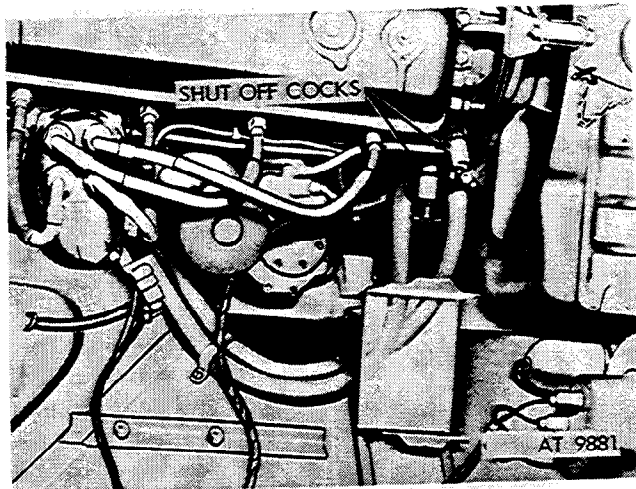
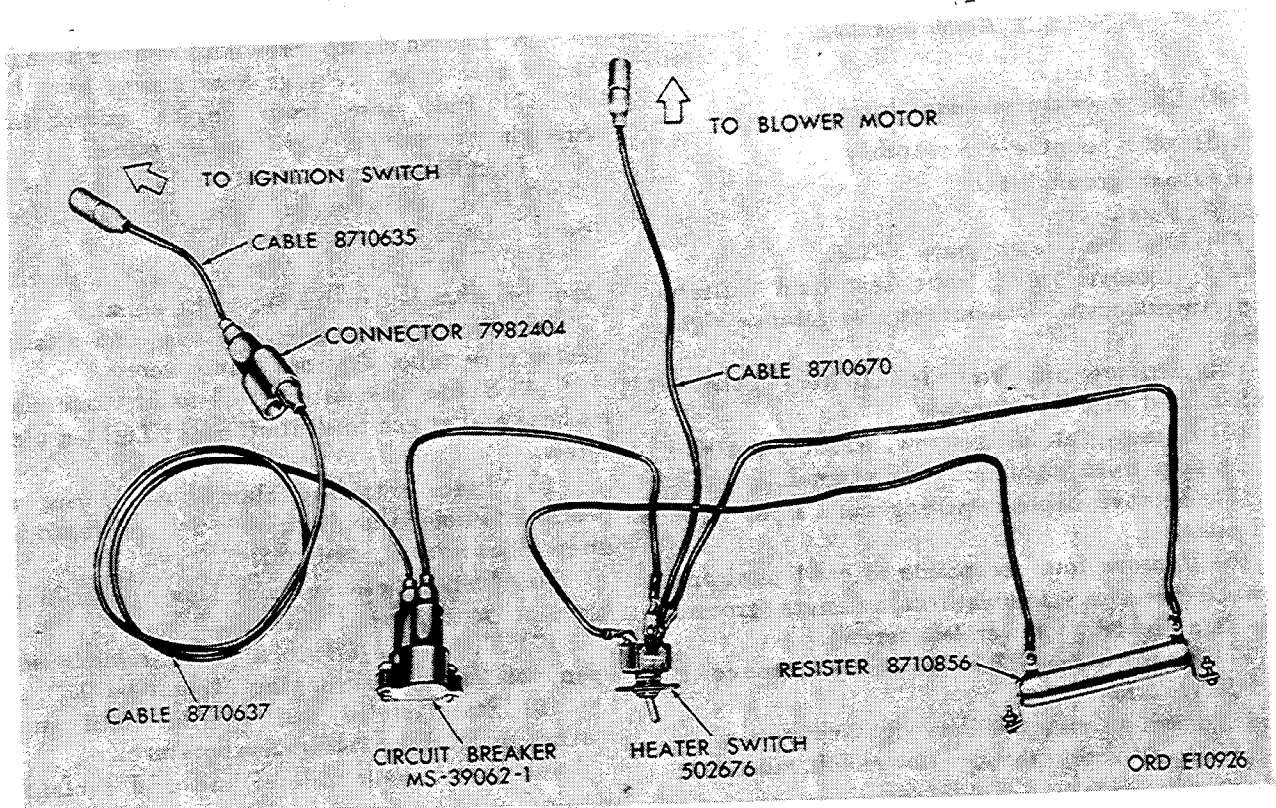
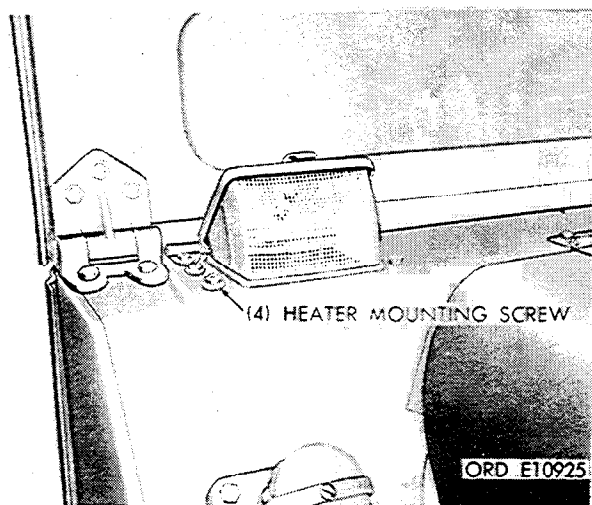

Figure 3-19. Heater shut-off cocks and heater hoses.
Figure 3-20. Wiring assembly—hot water heater.
Figure 3-21. Heater mounting.
- (1) Close both shut-off cocks by turning clockwise (fig. 3-19).
- (2) Remove four weldment screws and washers.
- (3) Disconnect blower motor cable from circuit breaker cable (fig. 3-20).
- (4) Disconnect two hoses from heater core.
- (5) Remove two toeboard-to-bracket-retaining screws, flat washers, and weldment heater nuts.
- (6) Remove four top cowl-to-core heater mounting retaining screws, washers, and lock-washers (fig. 3-21).
#### a. Removal. Refer to figure 3-19.
#### a. Removal. Refer to figure 3-20.